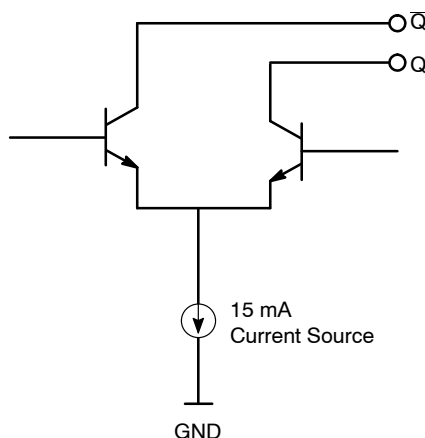

Figure 4. Output Structure
*The PECL Outputs are 15 mA open collector and must be DC loaded and AC terminated. See Figures 4, 5 and 6.
5. PECL outputs loaded with external resistors for proper operation (see Figures 4, 5 and 6).
The NB4N507A requires a 0.01 μ F decoupling capacitor to be connected between V_{DD} and GND on pins 2 and 5. It must be connected close to the NB4N507A. Other V_{DD} and GND connections should be connected to those pins, or to the V_{DD} and GND planes on the board. Another four resistors are needed for the PECL outputs as shown in Figure 4. Suggested values of these resistors are shown, but they can be varied to change the differential pair output swing, and the DC level.